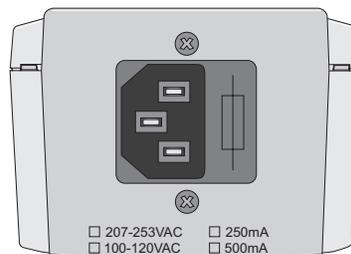

Figure 2-7. Indoor Unit Rear Panel
5. After connecting the outdoor unit to the indoor unit using the indoor-to-outdoor cable, connect the power cord to the unit's AC outlet, located on the rear panel (shown in Figure 2-7). After verifying that the unit is rated for the AC main voltage in the country of use, connect the other end of the power cord to the AC main. The AC rating can be found on the label on the rear panel of the indoor unit.